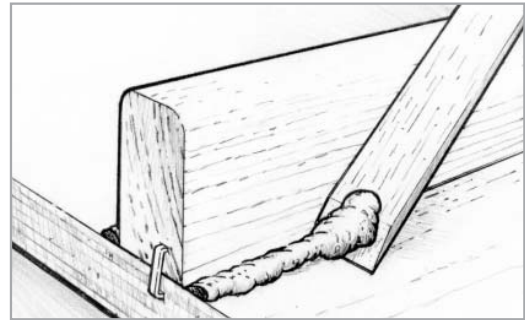

Figure 8-11 Remove or shape excess epoxy that squeezes out of the joint.
4. Remove or shape excess adhesive that squeezes out of the joint as soon as the joint is secured with clamps. A wooden mixing stick with one end sanded to a chisel edge is an ideal tool for removing the excess (*Figure 8-11*).